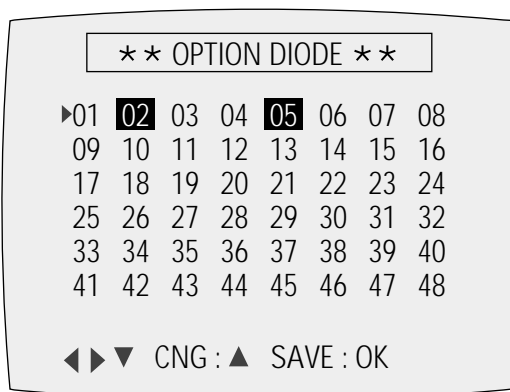

Fig. 2-4
- 2) Press the “MENU” button on the remote control about 5 seconds then option setting display is appeared. (See Fig. 2-4)
- 4) If selecting the option number is completed, press the “PLAY” button of remote control. (If “PLAY” button is pressed, the selected number is changes reversed color. ; See Fig. 2-4)